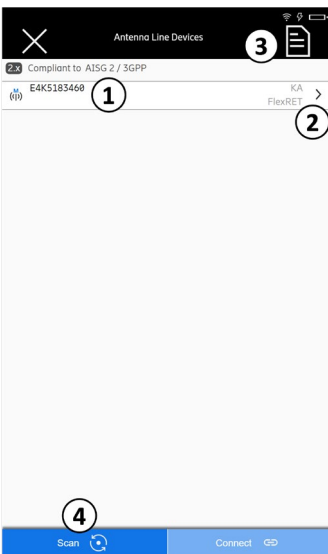

Fig. 54: Devices: Connected to a FlexRET
1. Tap ① in Fig. 54 to open the list with the individual subunits. The following page is shown:
1. Tap ① in Fig. 54 Section 9.4 to open the list with the individual subunits.